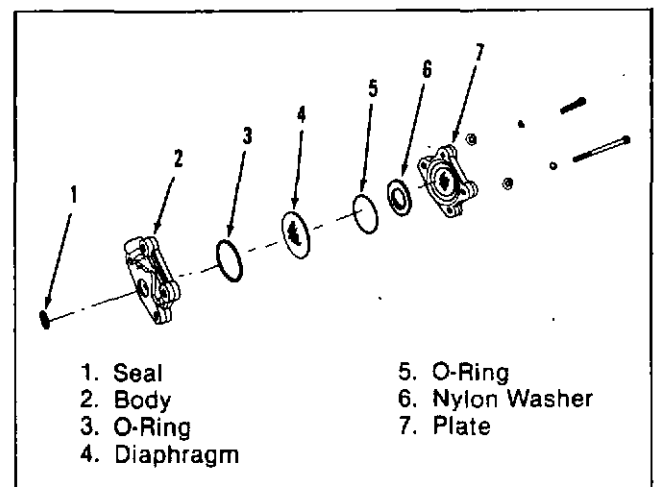

Fig. 5-5, (F5132). Fuel damper — disassembled view.
2. Check for corrosion, wear or cracks in the cover or the diaphragm. Replace the damaged parts, Fig. 5-5.